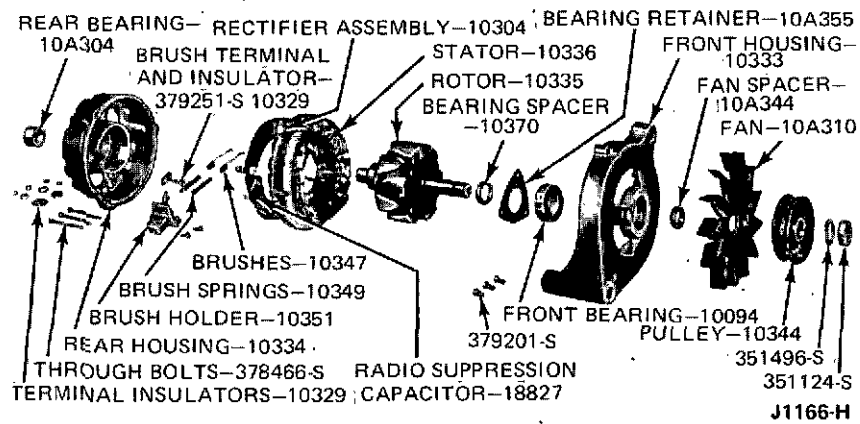

Fig. 15 — Disassembled Alternator
Fig. 15 shows a disassembled view of the alternator.
1. Press the front bearing in the front housing bearing boss (put pressure on the outer race only), and install the bearing retainer (Fig. 15).